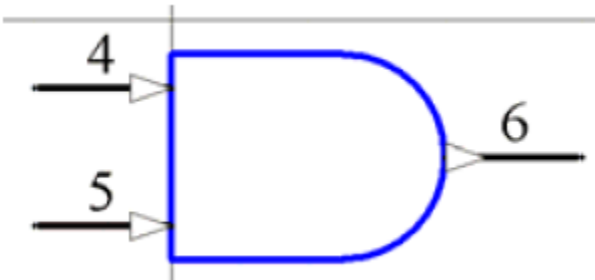

Figure 34. Part B of the 74F08SJX.
Add the pins to the first part, using the same technique described in the section Adding pins to a schematic component earlier in this tutorial. Pins 1 and 2 have an electrical type of Input and pin 3 is Output. Set the pin length to 20. The completed part is shown in Figure 34.
3. Select **Tools » New Part** . A blank component sheet displays. The Part counter in the **SCH Library** panel will be updated to include Part A and Part B if you click on the **+** to the right of the component name in the Components list in the **SCH Library** panel, as shown in Figure 34.
number in the *Pin Properties* dialog. Once complete, Part B will look like Figure 34.